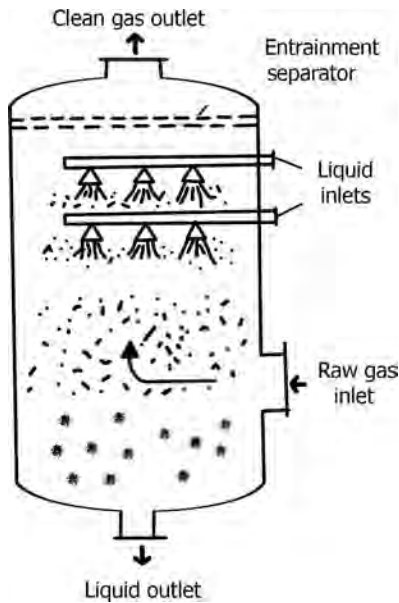

FIGURE 16.1 Schematic diagram for a spray column.
- Figure 16.1 illustrates a typical spray column.